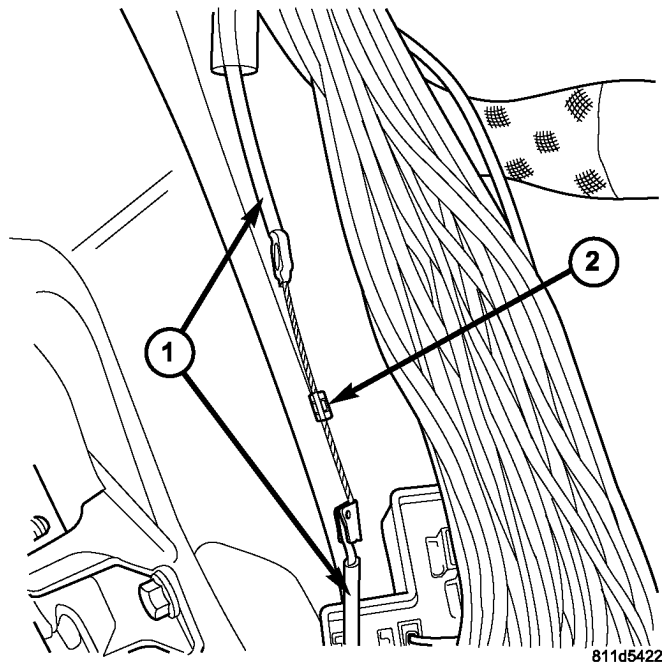

Fig. 3 DIODE IN PLACE
- 9. Splice in the diode kit (p/n 05107069AA) following procedures outlined in the TechCONNECT/MDS2 or 2003 Neon/SX 2.0 service manual (Publication No. 81-270-03028) page 8W-01-14 and 15 (Fig. 3).